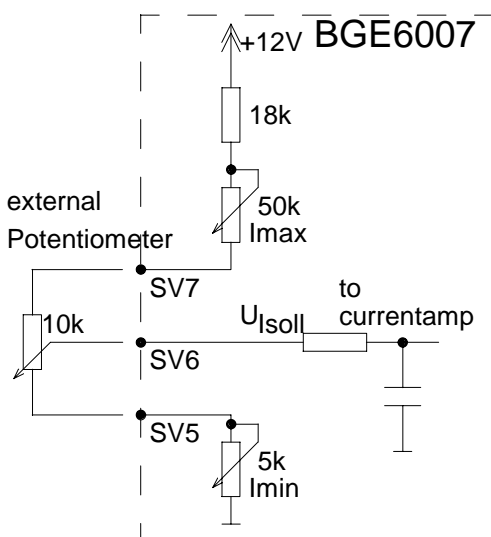

Fig 2: Connection diagram for adjusting the current limit (torque control)using an external
- SV5** **I-POT-min:** Potitiometer connection for min. Current. **See figure 2 for connection details.** 0...25A